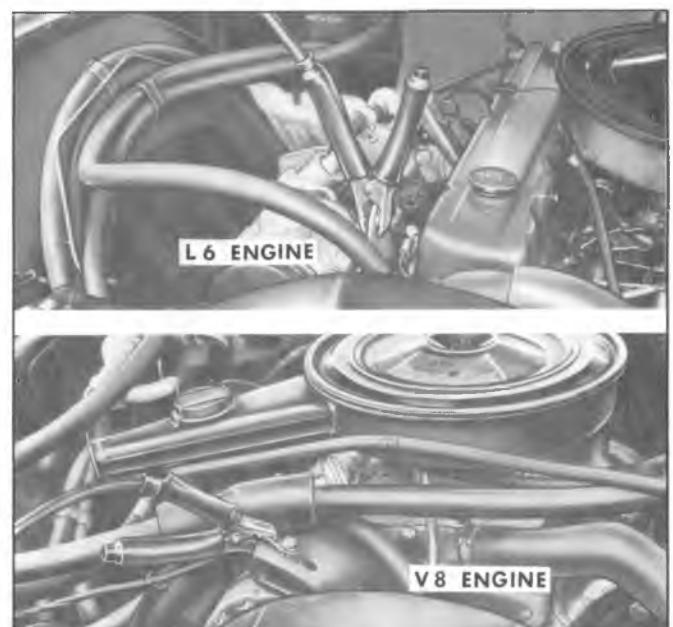

Fig. 4—Booster Battery Cable Ground Connection
4. Attach one end of the remaining negative (-) cable to the negative terminal (black color, "-", or "N") of the booster battery, and the other end to the engine lift bracket on 6 cylinder models and the delcotron mounting bracket on V-8 models (see Figure 4) of your 1972 Chevrolet (do not connect directly to negative post of dead battery)—taking care